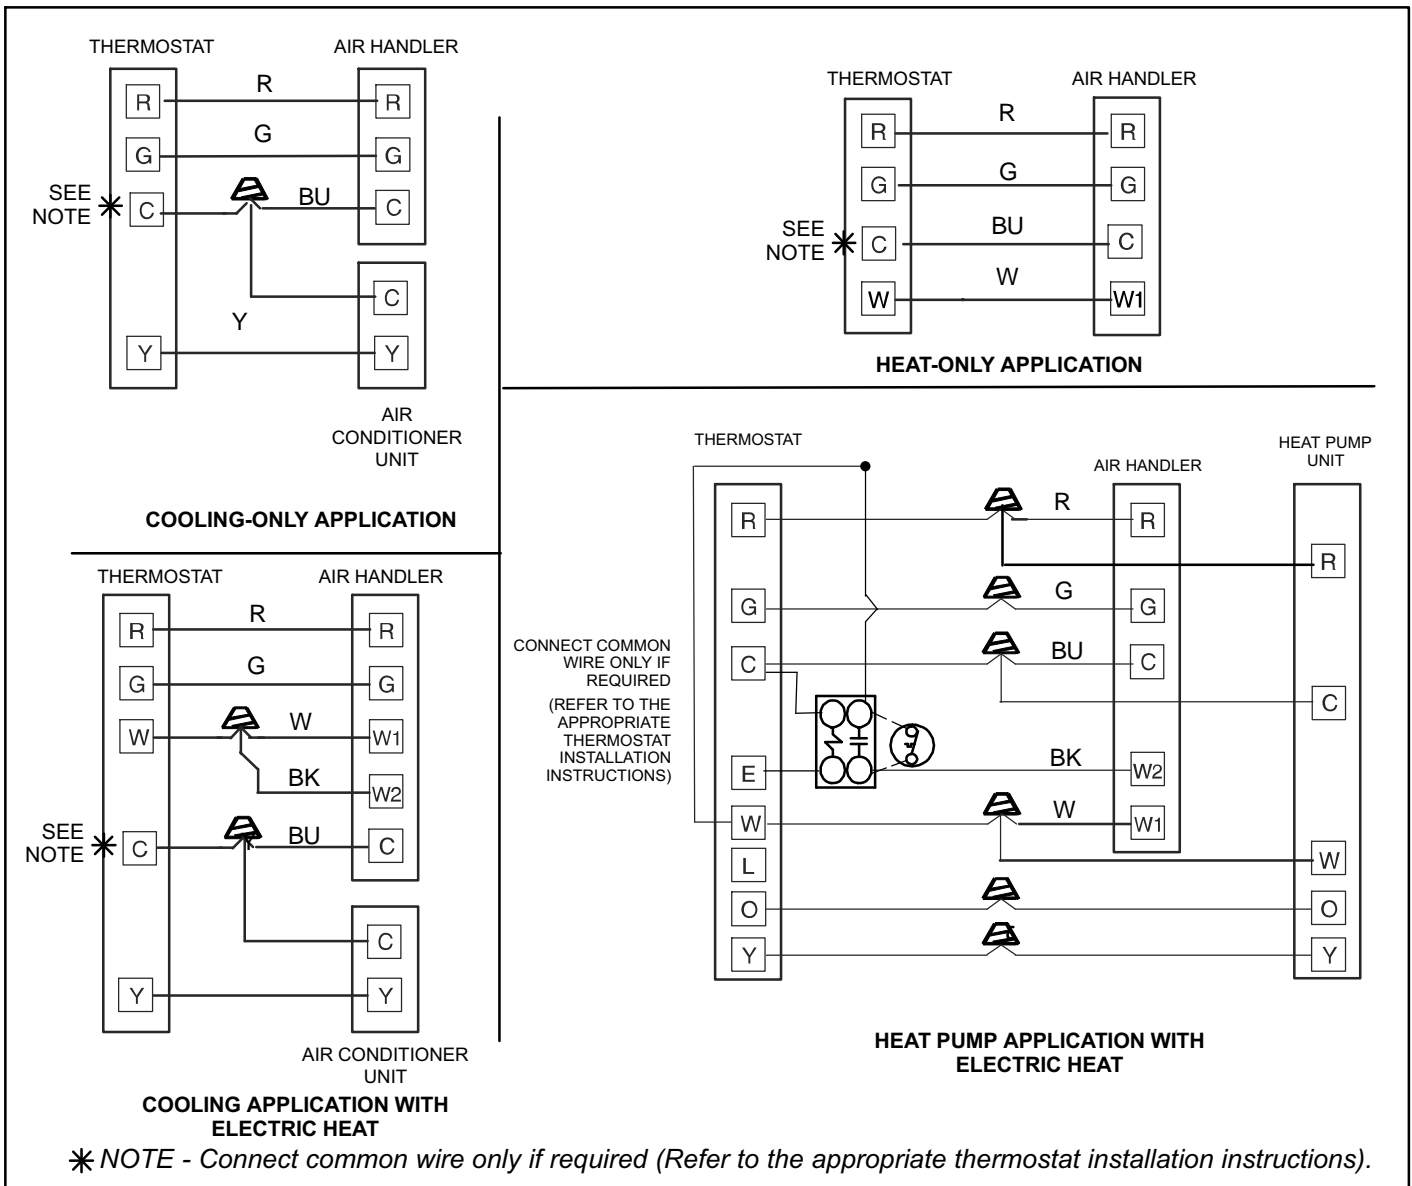

Figure 18. Low Voltage Connections (3-Speed PSC Motor) - Field Wiring
- Typical unit wiring (as well as wiring of optional field-installed electric heat) is given in figure 18. Refer to the instructions provided with the electric heat section for proper installation.